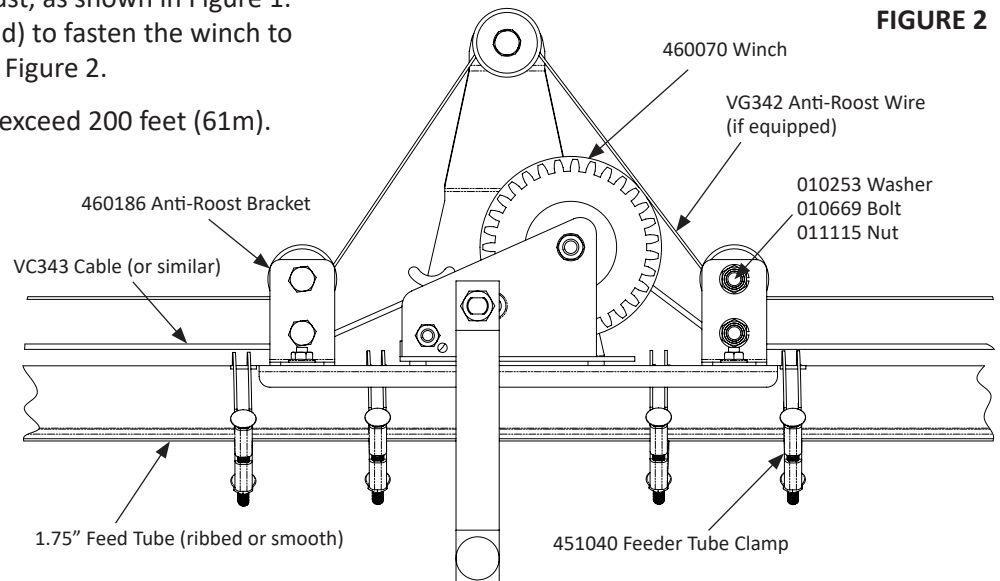

FIGURE 2
Step 1: The winch should be placed in the center of the line of feed level tubes it will adjust, as shown in Figure 1. Use four 451040 clamps (provided) to fasten the winch to the feeder line tube, as shown in Figure 2.